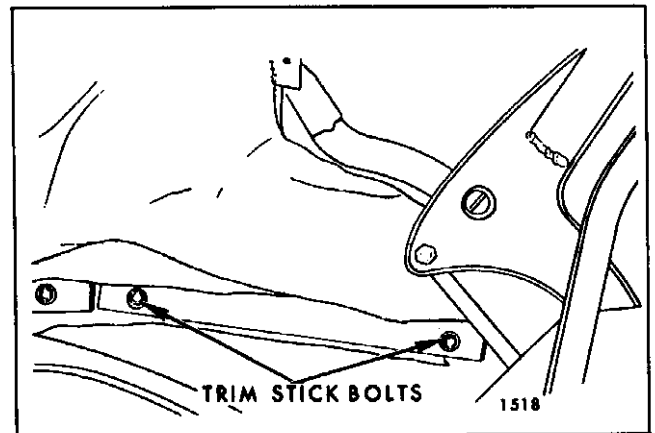

Fig. 13-6 - Rear Quarter Trim Stick
18. At each rear quarter area remove attaching bolts securing rear quarter trim stick assembly to rear quarter inner panel (Fig. 13-6).